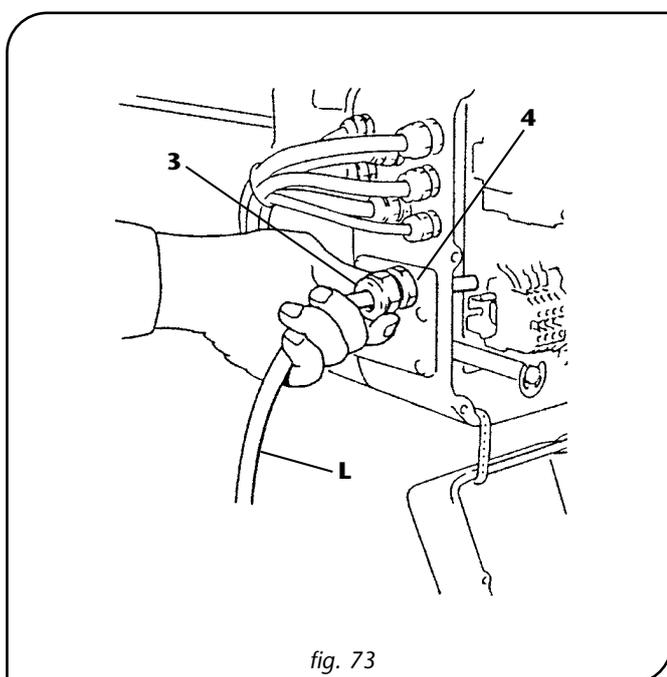

fig. 73
4. Loosen the ring -3- of the cable clamp -4-, put the line cable -L- in the cable clamp and clamp completely the cable clamp ring (fig. 73).